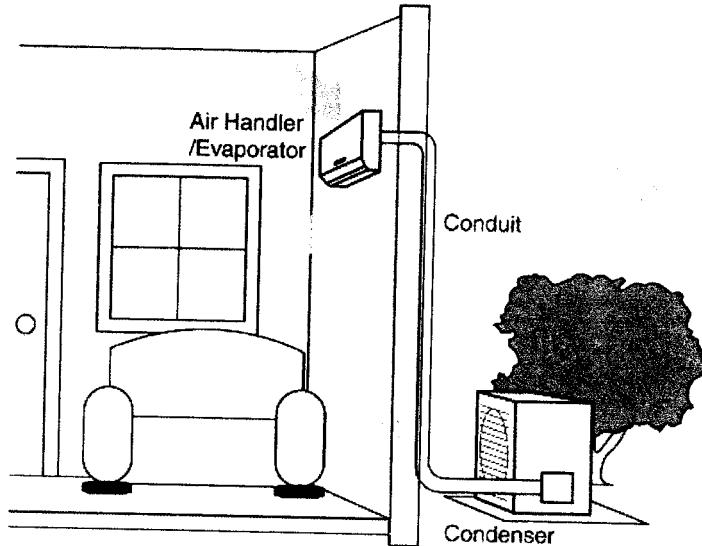

Figure Q3(c) / Rajah S3(c)
- (c) **Figure Q3(c)** shows split unit air conditioner installed to cool a room. Heat will transfer from inside of the room space and reject to the outside of the room or surrounding by using the air conditioner.